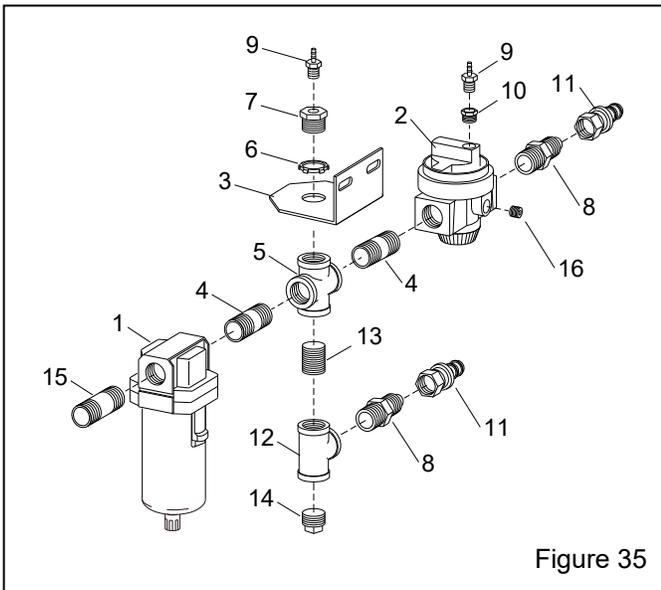

Figure 35
Refer to Figure 35 for parts	12763
9.4 Inlet-Air Regulator Assembly – Figure 35